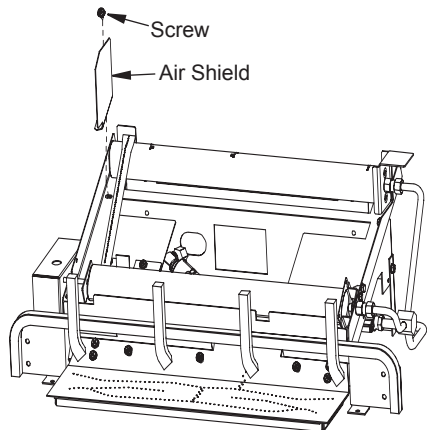

Figure 38 - Removing Air Shield
1. Before placing any logs on the chassis you will need to remove the Air Shield located on the left side near the rear burner as shown in Figure 38. The Air Shield is held in place with one screw, remove the Air Shield and place the screw back into the hole in the chassis. Place the Air Shield with you owner's manual and keep.